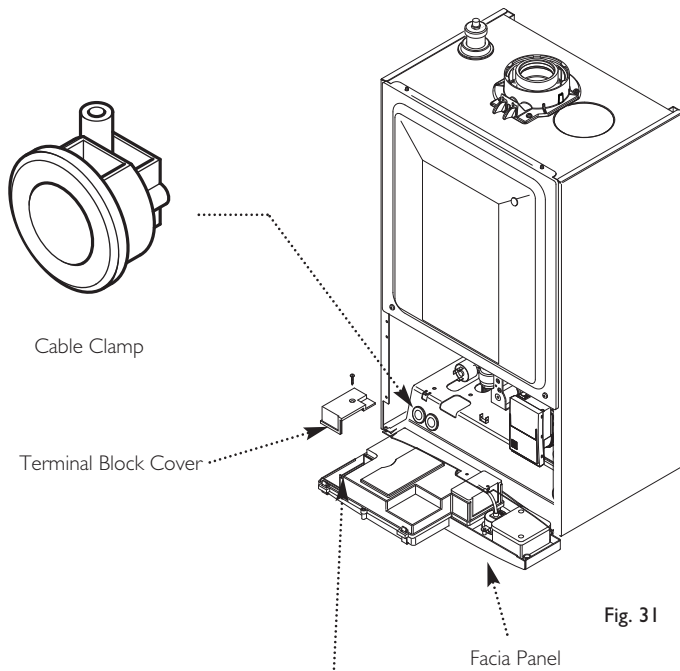

Fig. 31
2. Completely undo the screws securing the fascia panel and hinge it down (Fig. 31).
3. Undo the terminal block cover securing screw and remove the cover (Fig. 31).